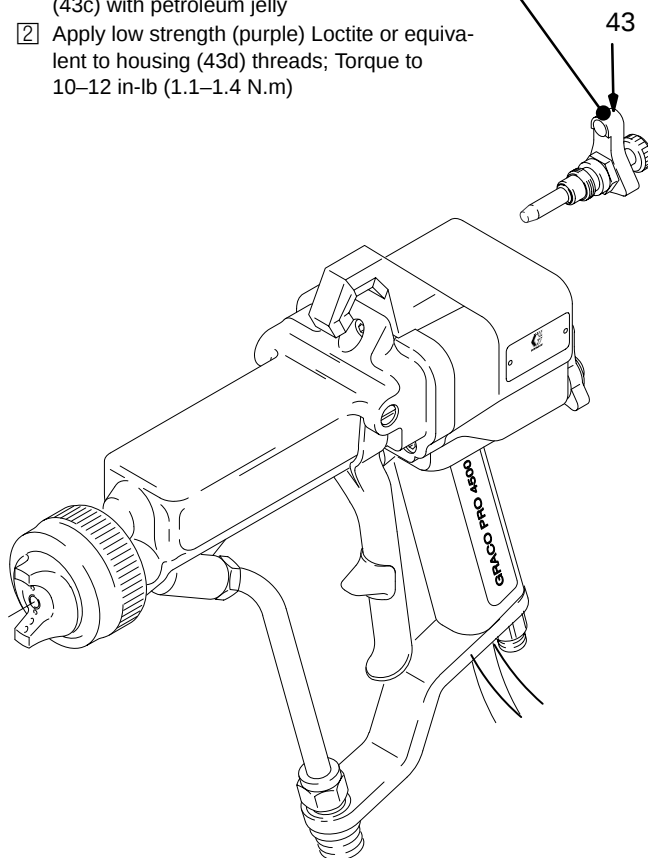

Fig. 20
2. Place a wrench on the flats of the valve housing and remove it from the handle. See Fig. 20.
1. Rotate the adjustment knob (43c) counterclockwise, backing out until it stops. Remove the retaining ring (43h) and back off the KV HI-LO lever (43g) from the valve housing (43d). See Fig. 20.
6. When reassembling the fan air valve (43), lubricate the o-rings (43e) and the threads on the adjustment knob (43c) with petroleum jelly. Reassemble the retaining ring.